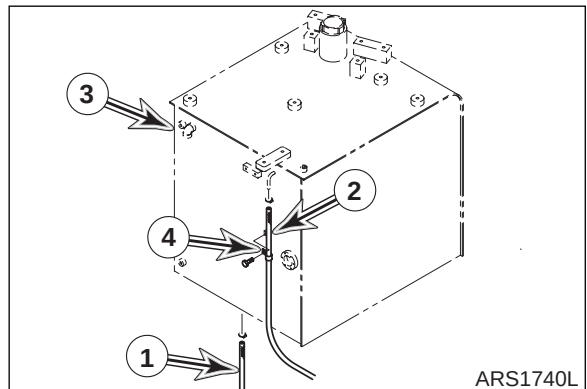

Figure 7
10. Tag and disconnect fuel supply line (1, Figure 7) and fuel return line (2) from tank (3) and carefully drain remaining fuel from lines.
11. Remove clamp (4, Figure 7) holding fuel return line (2) to tank (3).